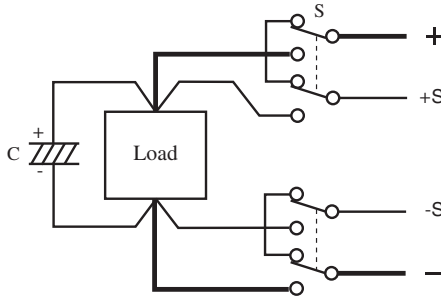

Fig.4-7 Power ON/OFF using mechanical switches
- ⚠ CAUTION** • To turn on/off the power supplied to a load using a mechanical switch, provide additional switches between the sensing wires as shown in Fig.4-7; turn on/off the power and remote sensing function simultaneously. In addition, make sure the OUTPUT switch or POWER switch turned off when turning on/off the mechanical switch.